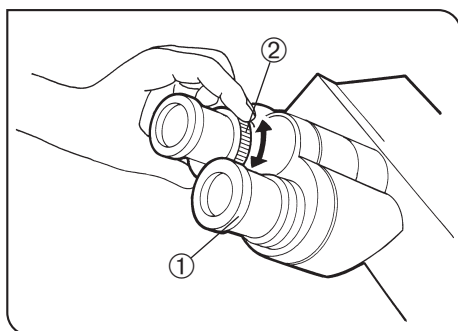

Fig. 42
1. Looking into the right eyepiece with your right eye, turn the top of the eyepiece ① so that the micrometer in the field of view looks sharpest (Fig. 42).
3. Looking into the left eyepiece with your left eye, rotate the diopter adjustment ring ② to bring the specimen into focus.